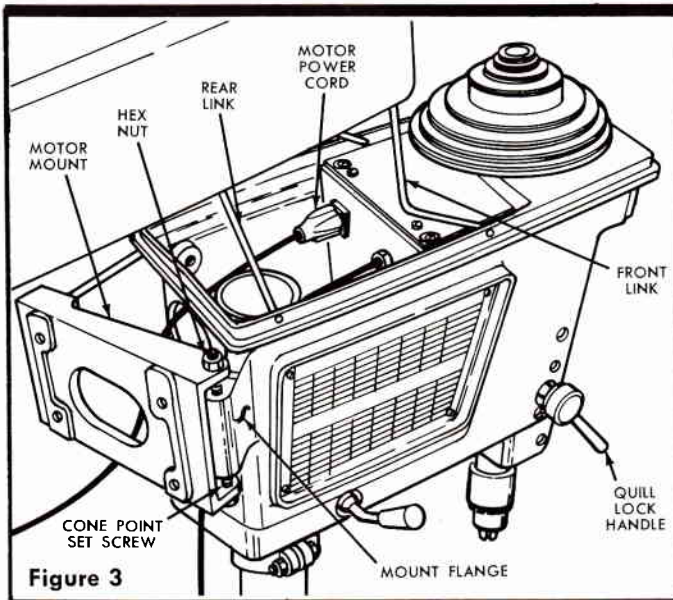

Figure 3
- b. While holding firm downward pressure on feed handle, lock the quill with quill lock handle (see figure 3).
1. Remove guard assembly by depressing forward and rear links till they clear the holes in the drill press head (see figure 3).
2. To install motor, screw cone point set screws part way into holes on the motor mount assembly (see figure 3).
3. Align cone point set screws with holes on the mount flange at rear of drill press head (see figure 3). Using 5/32 hex wrench, tighten cone point set screws one at a time until motor mount is centered on mount flange.
11. Replace guard after properly adjusting belt tension (see figure 3).
12. Connect the motor power cord to the outlet on the electric support assembly (see figure 3).